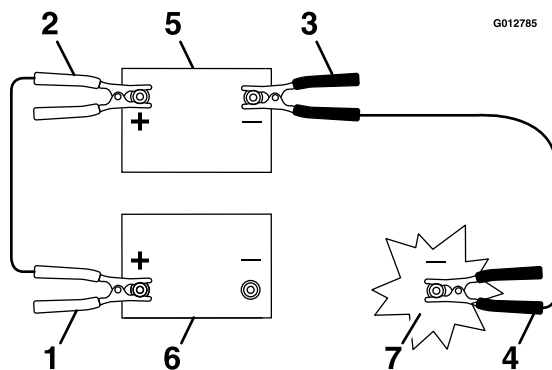

Figure 56
3. Connect the positive (+) cable to the positive (+) terminal of the discharged battery that is wired to the starter or solenoid as shown in Figure 56.